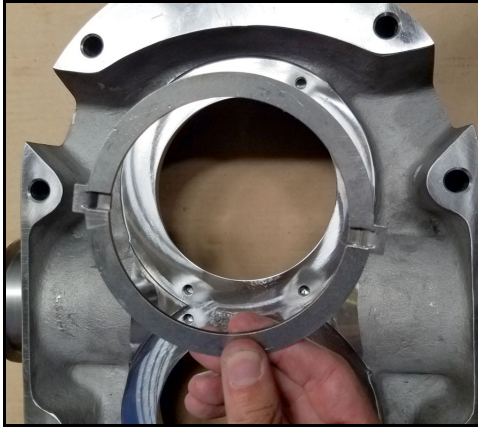
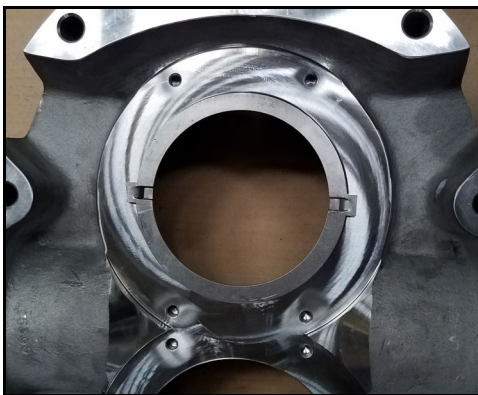

Figure 110 - Install drive ring
Figure 111 - Drive ring installed
2. Install the drive ring as shown in Figure 110. The side of the drive ring tab that protrudes, faces the body; the flat side of the tab faces up. (The flat side of the tab is facing the camera in Figure 110 and Figure 111.)
3. Note the orientation of the tabs; for pumps 180-U3 and larger, the tabs of the drive ring are parallel to the side ports of the body as shown in Figure 110 and Figure 111.
4. Figure 111 shows the drive ring installed.